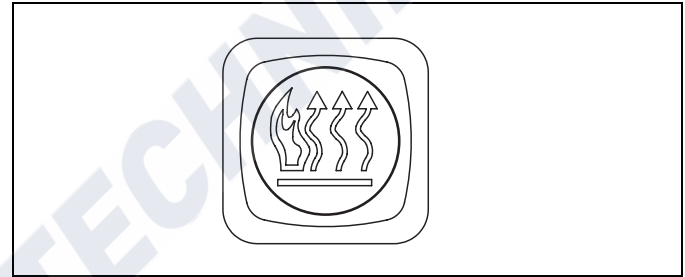

Fig. 48: Dashboard LED
- Connect the wiring. See Fig. 48.